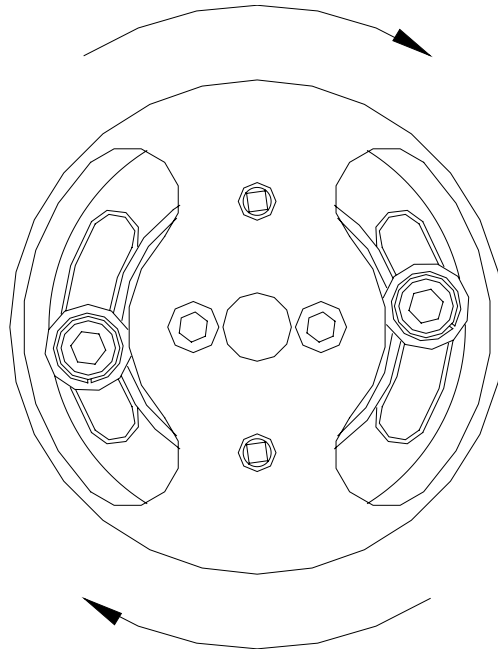

Figure 3-5: Applying Torque to the Stator
- j. *Gently* apply torque to the stator, as shown in Figure 3-5, and observe the DVM display for a rapid, smooth response to the torque applied to a maximum of + 20.00 mA.